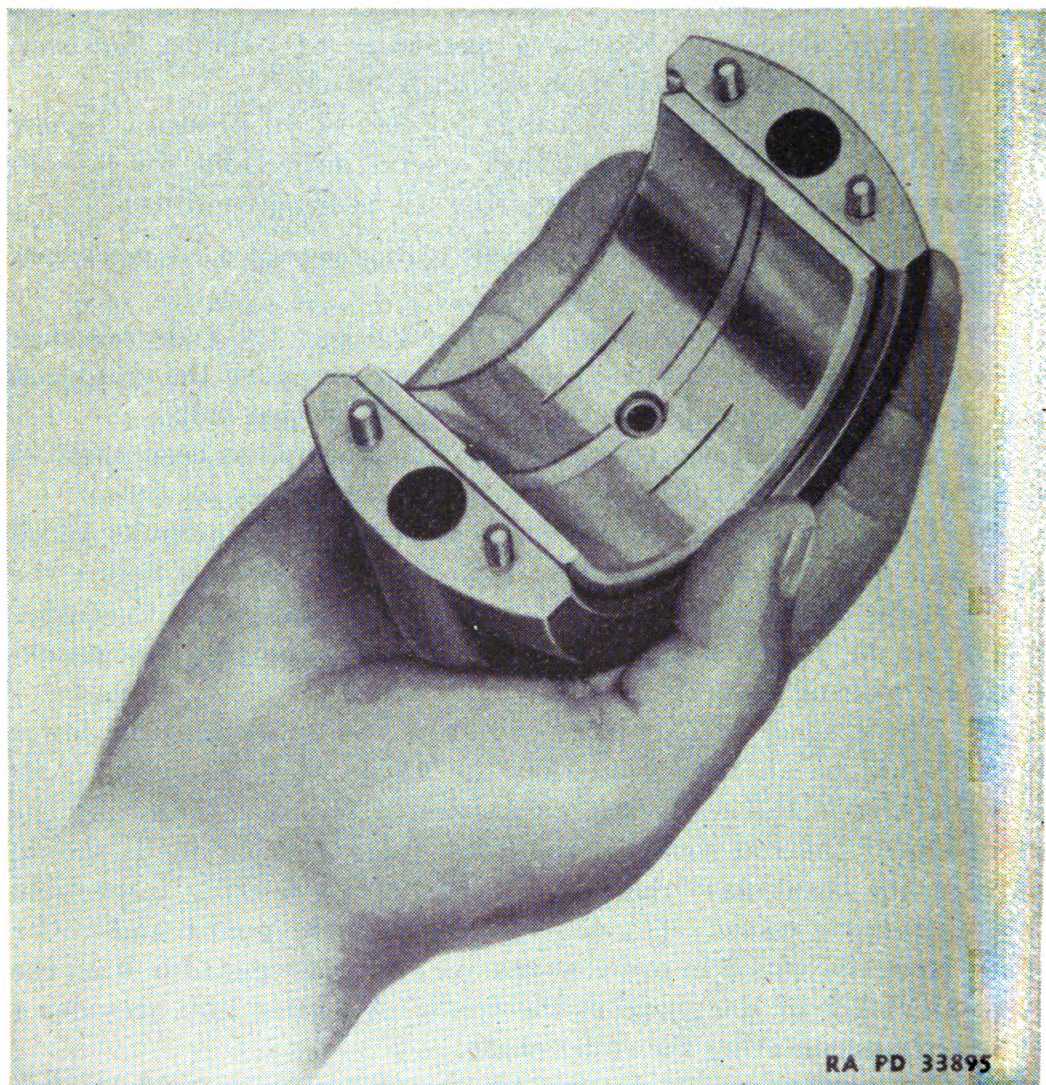

FIGURE 33.—Soft wire test for bearing clearance.
b. Soft wire test.—Another satisfactory method of determining bearing clearance is to use soft lead wire, approximately .015 inch diameter, in the bearing. Coat two 1-inch lengths of lead wire with soft grease and place them on the bearing (one on each side of the oil groove) along the direction of shaft rotation (fig. 33). The soft grease will keep the wire from slipping out of position while installing and tightening the bearing cap. Rock the shaft back and forth slightly during the final tightening. Remove cap and measure compressed wire with a 0- to 1-inch micrometer to ascertain the actual bearing clearance. Wire (CAT5B1161) should be used for this purpose.
(1) In the case of the adjustable main bearings, shims should be removed or added until the correct clearance is obtained.
(2) In the case of the precision connecting rod bearings, new bearing shells should be installed if the bearing clearance becomes excessive.